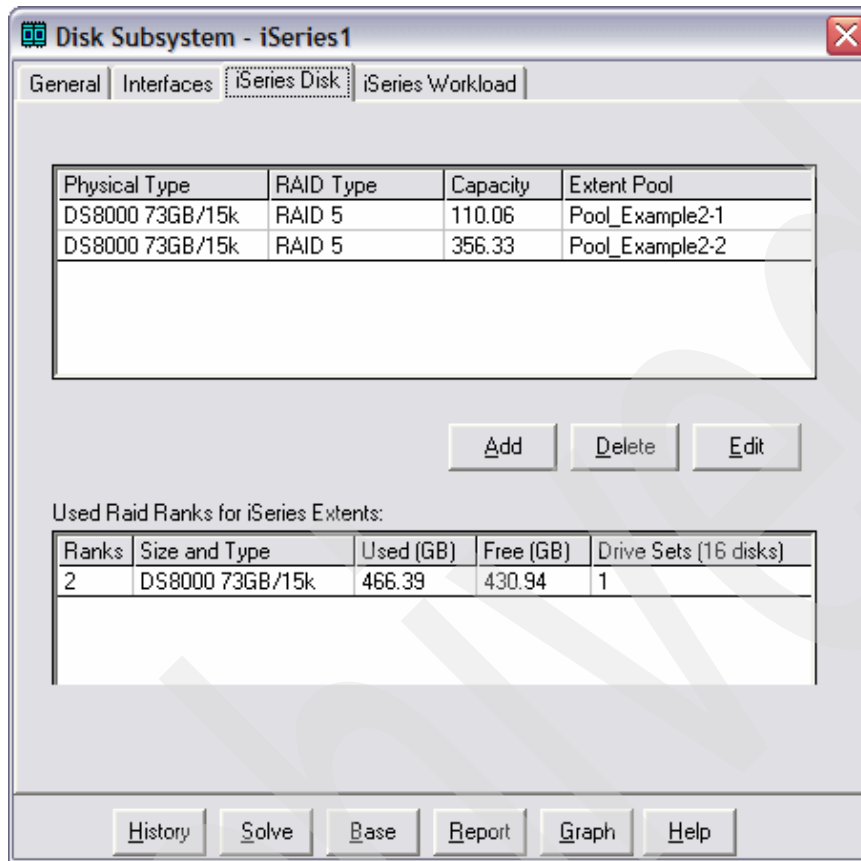

Figure 4-58 Current capacity in the extent pools
- e. In the Disk Subsystem - iSeries1 window, select the iSeries Disk tab. Notice that Disk Magic creates an extent pool for each i5/OS system automatically. Each extent pool contains the same capacity that is reported for internal disks. See Figure 4-58.